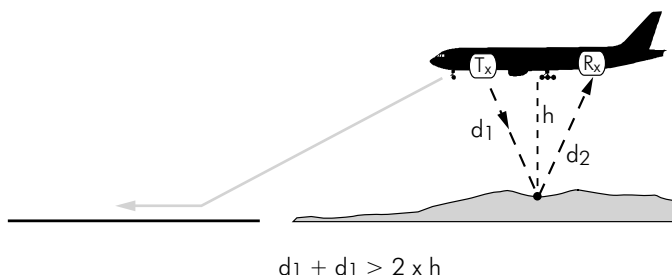

Figure: 5AI 3.1
The purpose of the **Radio Altimeter (RA)** is to measure the absolute height of the aircraft above the terrain. This is accomplished by transmitting a signal to the ground, see Fig 5AI 3.1, and processing the received signal into analog voltage proportional to the height. This analog voltage is used to position a pointer on an indicator for a visual indication of altitude.